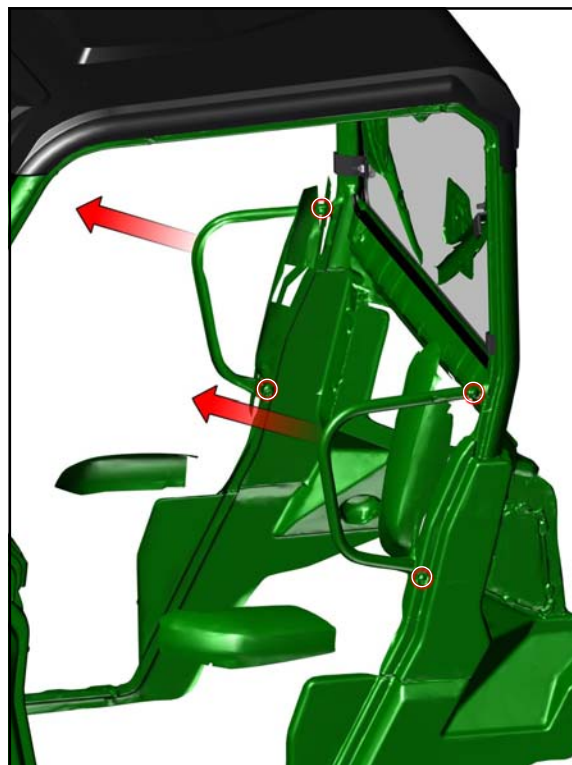

Fig. 5.1
5.1 Before installing the doors, it is necessary to remove the handle bars shown in fig. 5.1. Loosen the screws (shown in white circles in the image) and remove the handle bars.